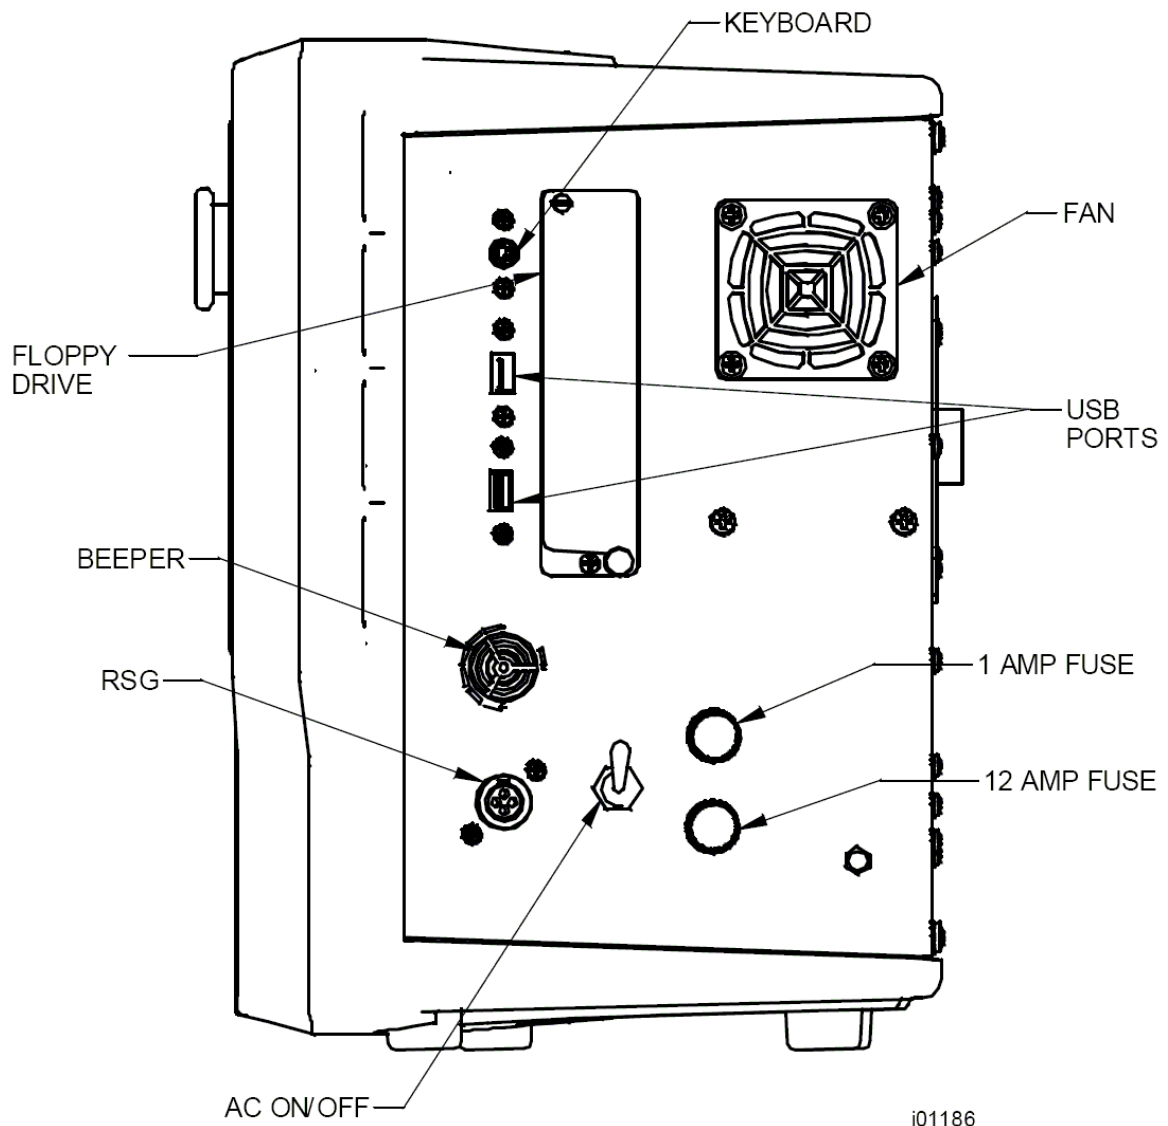

FIGURE 3.2.3 The ProtoTRAK SMX CNC right side
3.2.3 Pendant Right Side (See Figure 3.2.3)